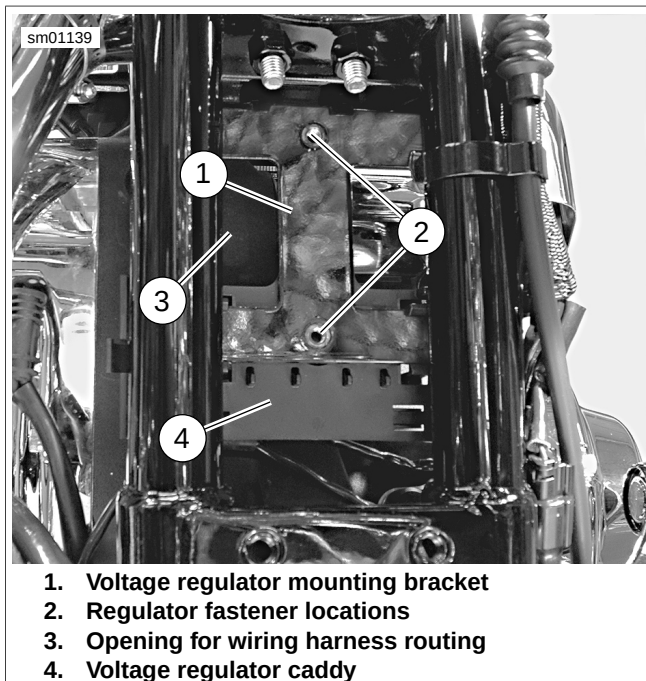
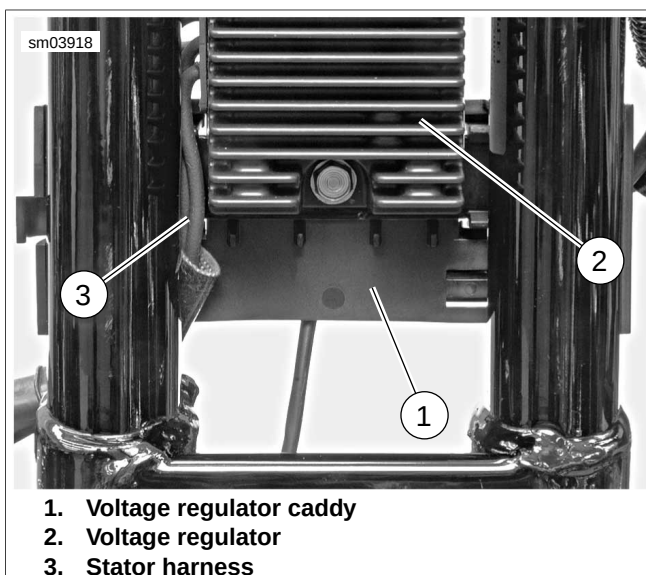

Figure 6-6. Voltage Regulator Mounting Bracket (All Models)
Figure 6-7. Stator Harness Routing
1. See Figure 6-6. Position voltage regulator close to mounting bracket (1). Orient regulator so cooling fins face forward and wiring harnesses exit regulator body toward right side of vehicle.
2. Thread DC output wiring harness into opening (3) between mounting bracket and frame downtube on right side of vehicle. Route DC output harness connector [77A] toward left side of vehicle.
3. See Figure 6-7. Route stator harness (3) down along between right frame downtube and body of voltage regulator (2), and under voltage regulator caddy (1). Route stator harness connector [46A] toward right side of vehicle.
4. See Figure 6-6. Mount voltage regulator on mounting bracket (1) between frame downtubes and secure with mounting screws at two locations (2). Tighten to 36-60 in-lbs (4.1-6.8 Nm).